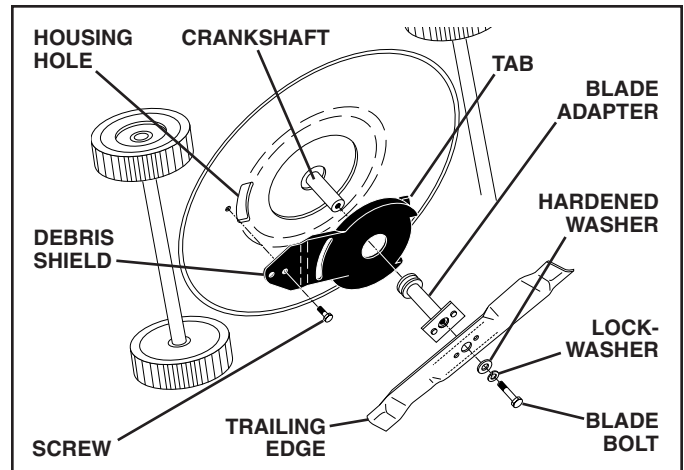

FIG. 22
6. Remove screw securing debris shield. Note that the debris shield has a tab which fits into a gap in the housing (See Fig. 22).
4. Position blade on the blade adapter aligning the two (2) holes in the blade with the raised lugs on the adapter.
5. Be sure the trailing edge of blade (opposite sharp edge) is up toward the engine as shown (See Fig. 22).